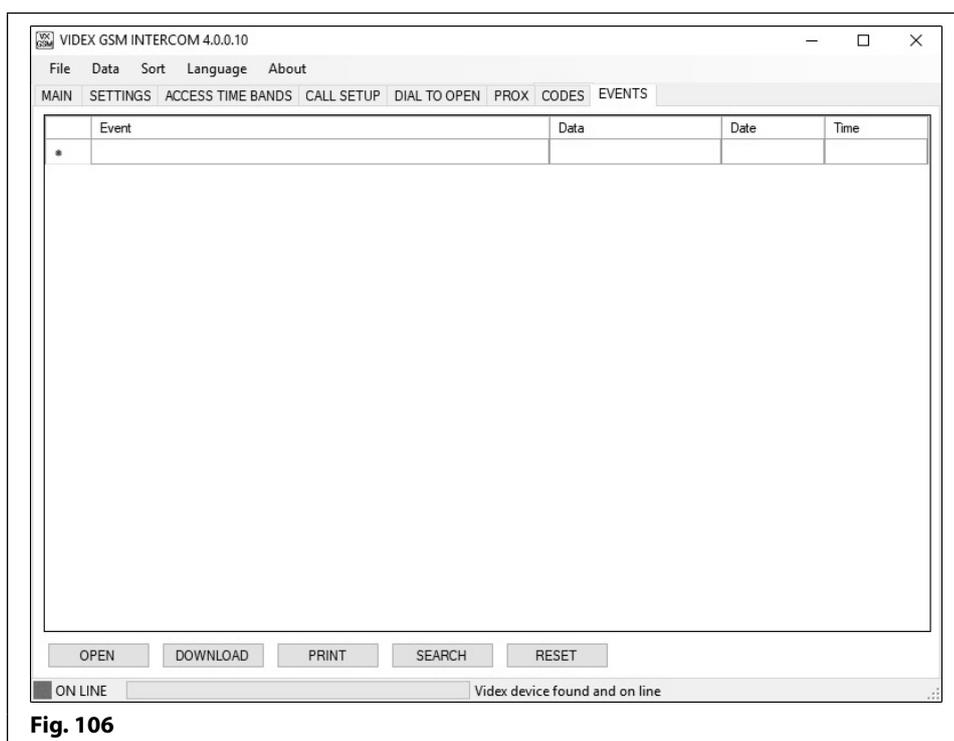

Fig. 106
The events screen layout is the same for each of the GSM systems, refer to **Fig.106**.
- First click on the **OPEN** button at the bottom of the events screen (see **Fig.106**);
- First click on the **DOWNLOAD** button at the bottom of the events screen (see **Fig.106**);